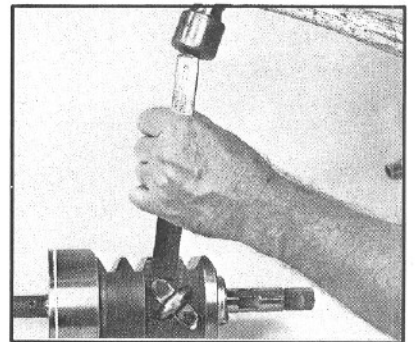

Figure 102
8. If your gear is equipped with the ball return guide clip (44), install it so that both bolt hole faces are in full contact with the rack piston surface. Install the two lock tabs (45) and the two hex head bolts (46). Torque the bolts to 13-17 ft. lbs. Finish by bending the locking tabs up against the bolt head flats (FIG. 102).